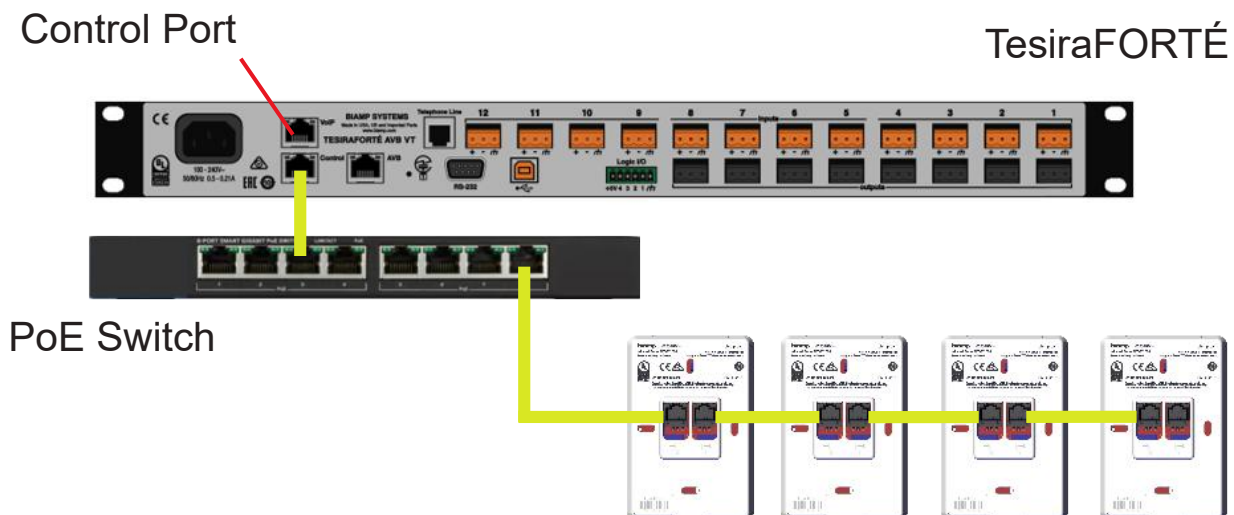

Figure 8. Basic Network Layout
4. The Tesira software allows for multiple pages each with unique icons, text, button color, etc. Figures 8 and 9 show examples of color and layout.